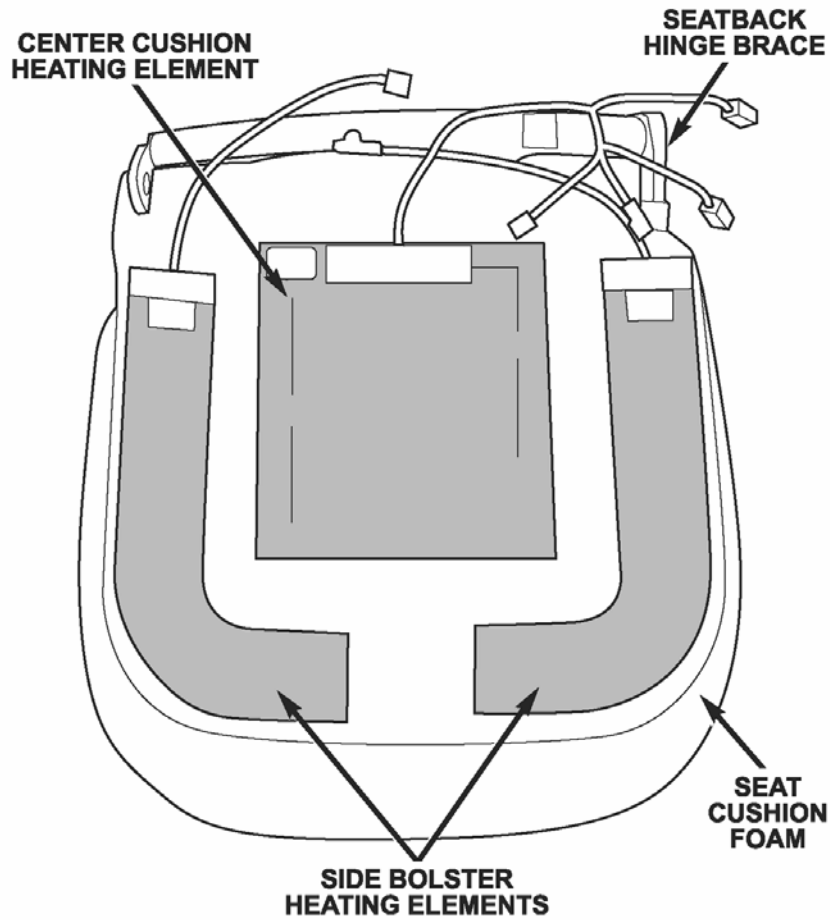

Figure 4
21. Peel off the paper on the adhesive backed heating element and attach the new center cushion heating element as shown in Figure 4. This is the element in the kit that has four electrical connectors.
22. Peel off the paper from each of the adhesive backed side bolster heating elements and attach each heating element to the seat cushion foam as shown in Figure 4.